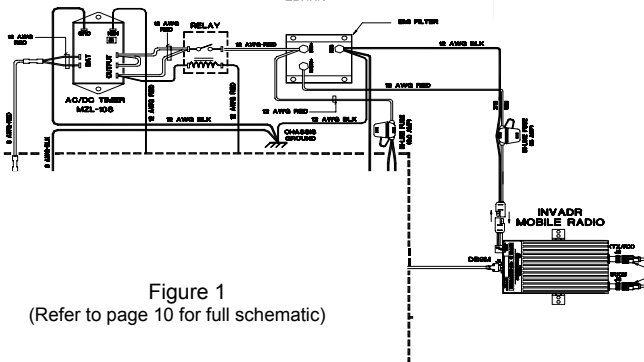

Figure 1
2. Mounting of the radio, delay timer, relay, and filter will take place in the trunk compartment (see Fig. 1) unless installing in a vehicle without a trunk.